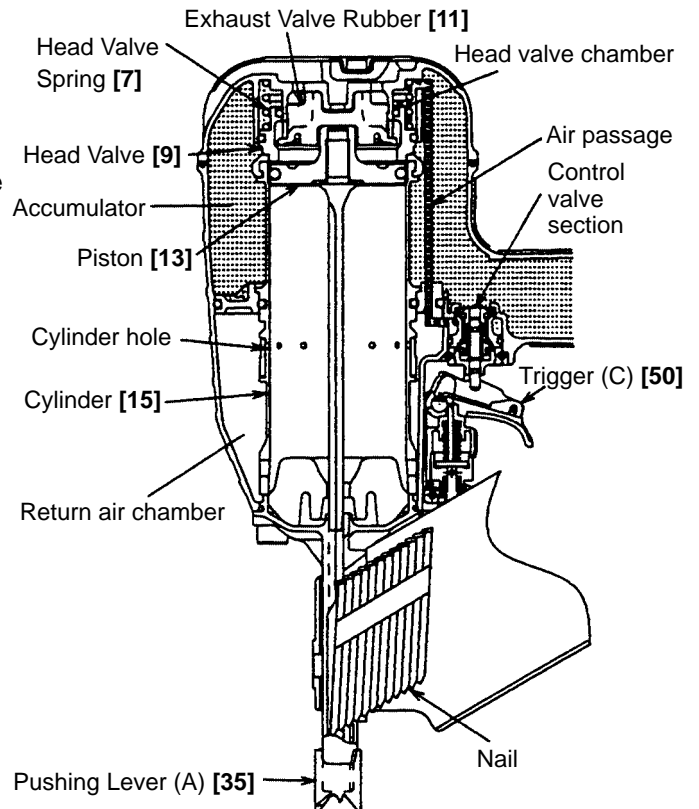
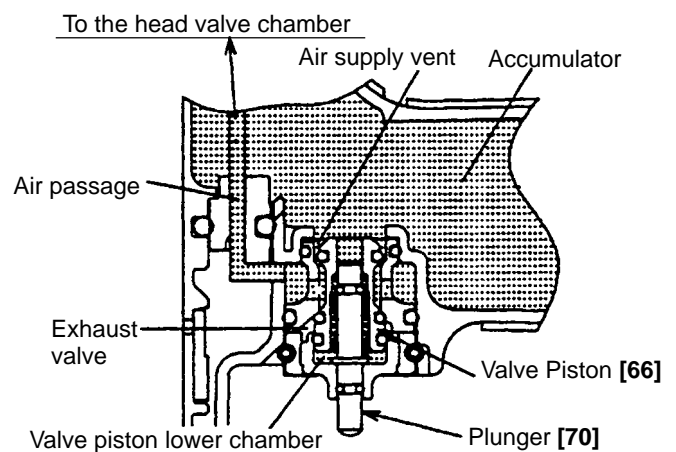

Fig. 4
Fig. 5 Control valve section
(1) Before nailing (See Fig. 4 and Fig. 5.)
(2) When nailing (See Fig. 4 and Fig. 5.)
- 3) When Trigger (C) [50] is released, the Plunger [70] returns (lowers) completely as shown in Fig. 5. Compressed air then flows into the valve piston lower chamber, and the Valve Piston [66] is forced upward. The Piston [13] then returns fully upward. Therefore, unless Trigger (C) [50] is released after each nailing operation, the structural mechanism prevents the next nailing operation.